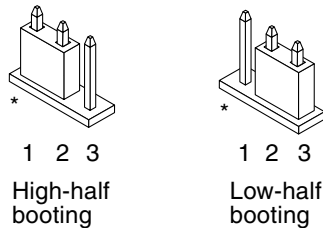
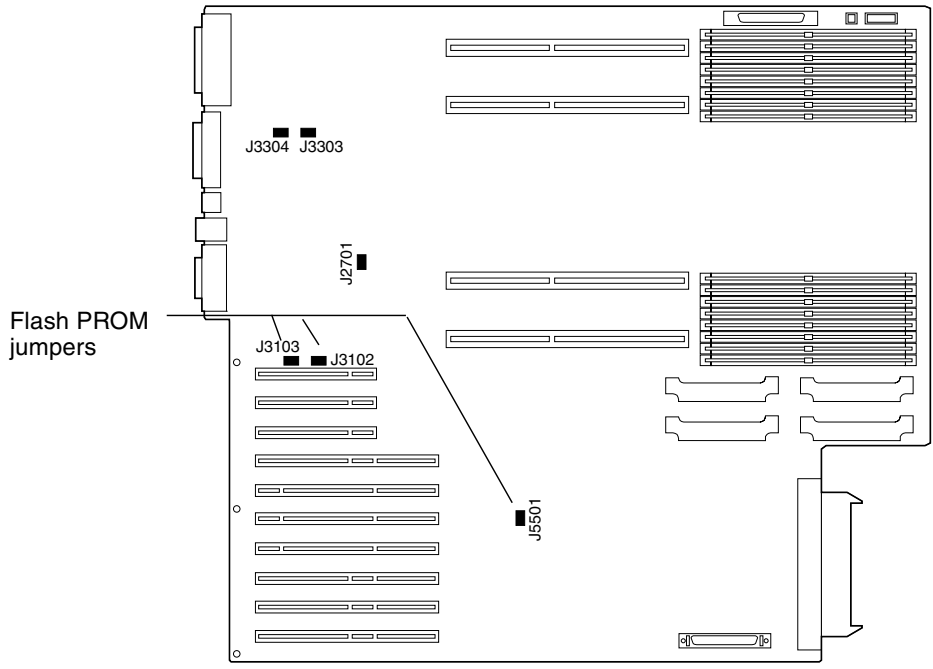

FIGURE 4-6 Setting the Boot Control Jumper to Low-Half Booting or High-Half Booting
FIGURE 4-7 Flash PROM Jumpers on the Sun Enterprise 450 System and the Sun Ultra 450 Workstation
2. If output cannot be found on any of the installed frame buffers or serial port A, set the boot control jumper to boot from the half of the PROM that is not currently selected. See FIGURE 4-1 on page 46, FIGURE 4-2, FIGURE 4-6, and FIGURE 4-7. An asterisk (*) on the main logic board notes the location of pin 1.
- If the jumper is set for high-half booting, move it to low-half booting (pins 2 and 3 jumpered). See FIGURE 4-6.
- If the jumper is set for low-half booting, move it to high-half booting (pins 1 and 2 jumpered). See FIGURE 4-6.
Three jumpers on the main logic board affect flash PROM operation. FIGURE 4-7 shows the jumper locations, and TABLE 4-6 describes their functions.